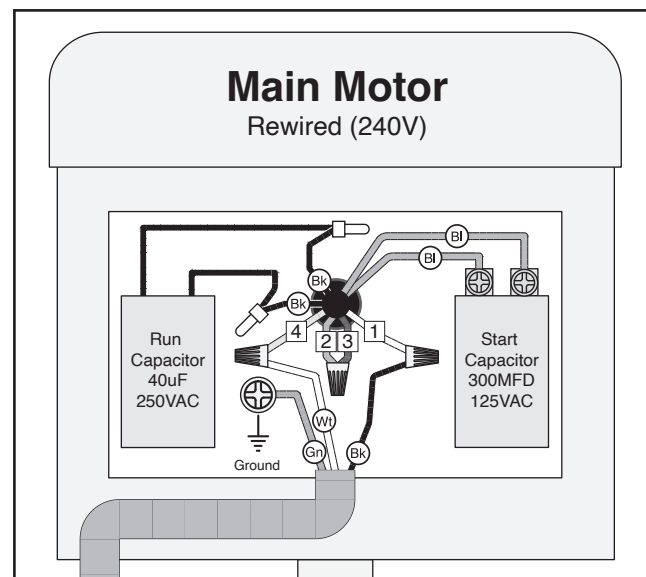

Figure 9. G0975 main motor (240V).
5. Connect wires 2 and 3 with a wire nut and secure with electrical tape (see **Figure 9**).
6. Connect black incoming power wire with wire 1, then secure with wire nut and electrical tape (see **Figure 9**).
7. Connect white incoming power wire with wire 4, then secure with wire nut and electrical tape (see **Figure 9**).